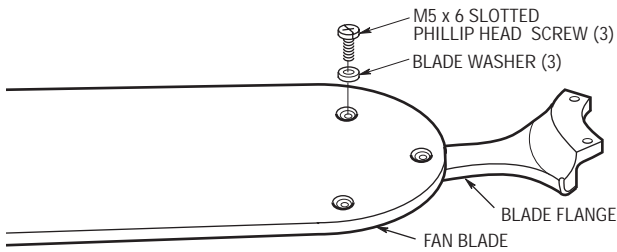

Figure 5
7. Mount blade flanges to fan blades using three M5 x 6 slotted Phillips screws and three blade washers (Figure 5).